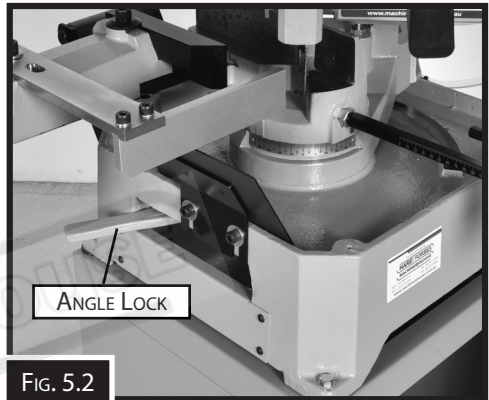

FIG. 5.2
2. Move the mitre lock lever to the right to release the headstock. (Fig. 5.2)